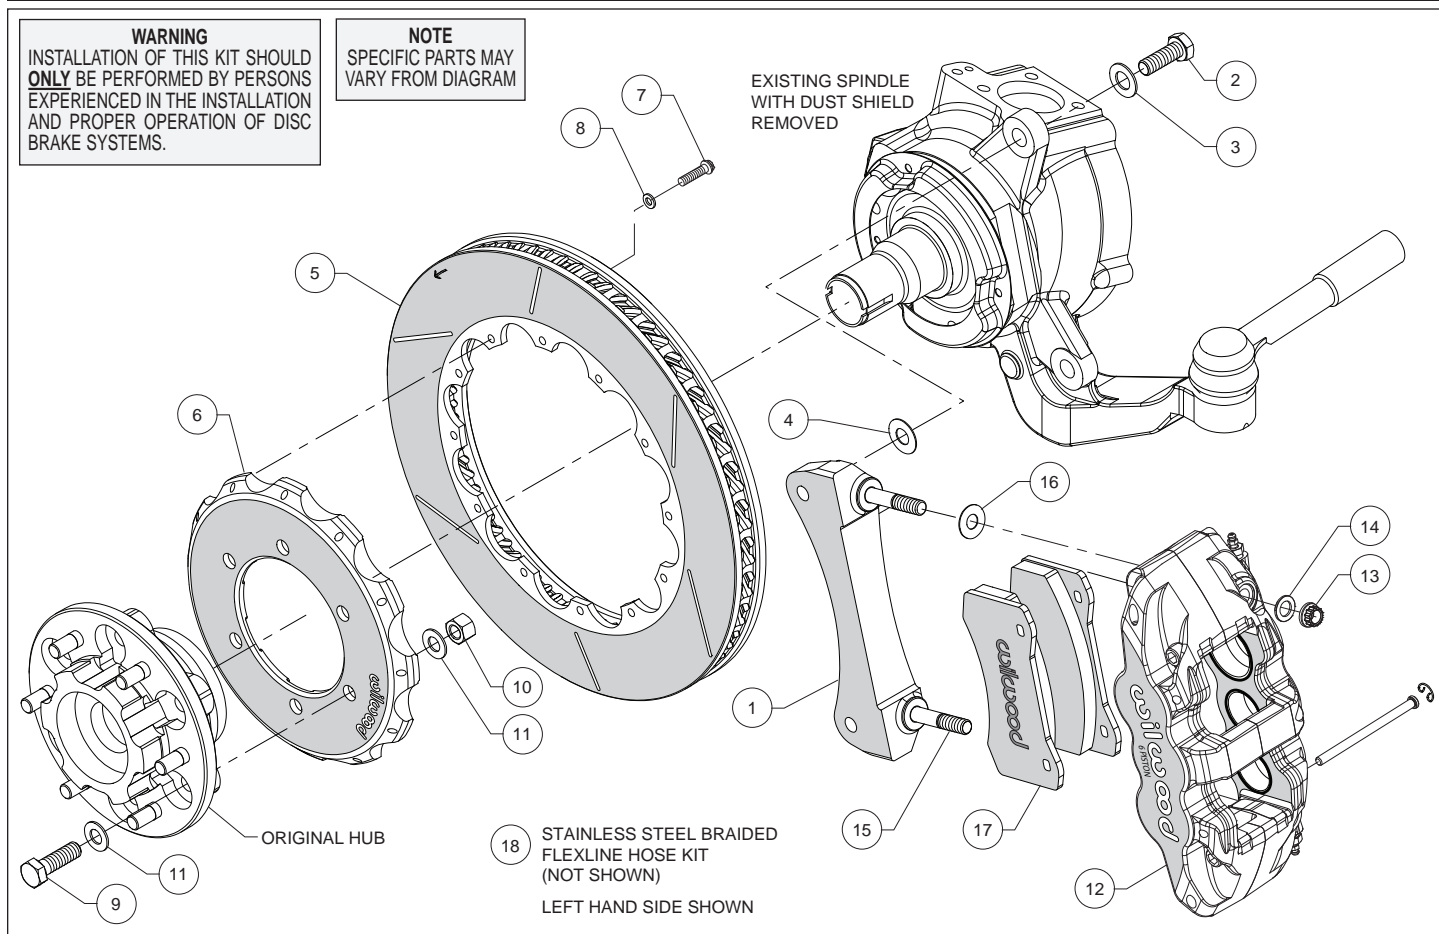
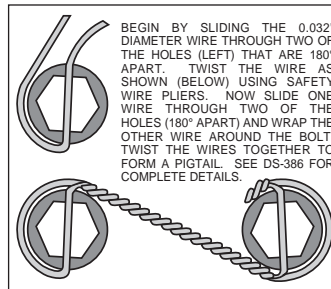

Figure 1. Typical Installation Configuration
Figure 4. Safety Wire Diagram
Assembly Instructions (numbers in parenthesis refer to the parts list and Figure 1 on the preceding pages):
- The caliper mount bracket (1) should initially be installed with clean, dry threads on the mounting bolts. Orient the bracket as shown in Figure 1 and Photo 1, install using bolts (2) and washers (3). Initially place one .029 thick shim (4) on each bolt between the bracket and upright, Figure 1. Temporarily tighten the mounting bolts. **NOTE:** *The bracket must fit squarely against the mount bosses on the upright.* Inspect for interference from casting irregularities, machining ridges, burrs, etc. Later, after the caliper alignment has been checked, the mount bolts will be secured using red *Loctite*® 271.
- Orient the rotor (5) and the hat (6) as shown in Figure 1 and Photo 2. Attach rotor to hat using bolts (7) and washers (8). Using an alternating sequence, apply red *Loctite*® 271 to the threads, and torque to 155 in-lbs. For an added measure of security, the bolts may be safety wired using standard 0.032 inch diameter stainless steel safety wire as shown in Figure 4. Please refer to Wilwood's data sheet DS-386 (available at www.wilwood.com/Pdf/DataSheets/ds386.pdf) for complete safety wire installation instructions.
- Install the saved OEM hub to the hat (6) using bolts (9), lock nuts (10) and washers (11) as shown in Figure 1, Photos 3 and 4. **NOTE:** *The hat must fit flush against the hub flange or excessive rotor run out may result.* Torque the lock nuts to 60 ft-lb.
- NOTE:** *This kit contains distinct right and left hand calipers that must be mounted in a specific direction, as described below.* Lubricate the caliper mounting studs (15) with lightweight oil. Initially place one .030" thick shim (16) on each stud as shown in Figure 1 and Photo 6. Mount the caliper (12) onto the bracket (1) using lock nuts (13) and washers (14), Figure 1. Ensure that the caliper is mounted so that the largest pistons are at the rotor exit end of the caliper, in relation to the direction of rotor rotation. Temporarily tighten the lock nuts and view the rotor through the top opening of the caliper. The rotor should be centered in the caliper, Photo 7. If not, adjust by adding or subtracting shims (4) between the bracket and the upright. Always use the same amount of shims on each of the two mounting bolts. Once the caliper alignment is correct, remove the bracket mounting bolts (2) one at a time, apply red *Loctite*® 271 to the threads, and torque to 77 ft-lb.
- Remove the caliper (12), then remove the two pad retaining pins from the caliper by carefully popping out the pin retaining clips and sliding out the pins. Insert the brake pads (17) into the caliper from the bottom, Figure 1 and Photo 8. With the friction material facing the rotor, secure the brake pads in place with the pad retaining pins and clips, Photo 9. Reinstall the caliper onto the caliper mounting bracket and temporarily tighten the lock nuts. Check that the top of the brake pad is flush with the outside diameter of the rotor, Photo 10. If not, adjust by adding or subtracting shims (16) between the caliper and the bracket. After the caliper pad height is set, torque the caliper lock nuts (13) to 47 ft-lb.